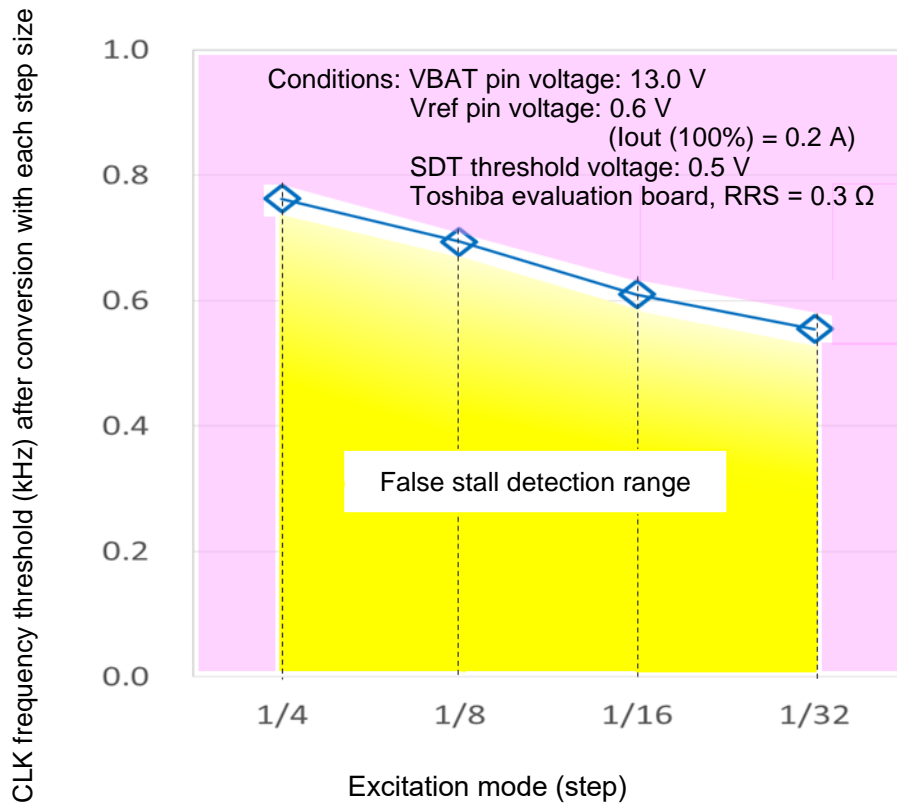

Figure 12. Excitation mode vs. CLK frequency threshold (for reference)
- As shown in Figure 12, the result is as follows: